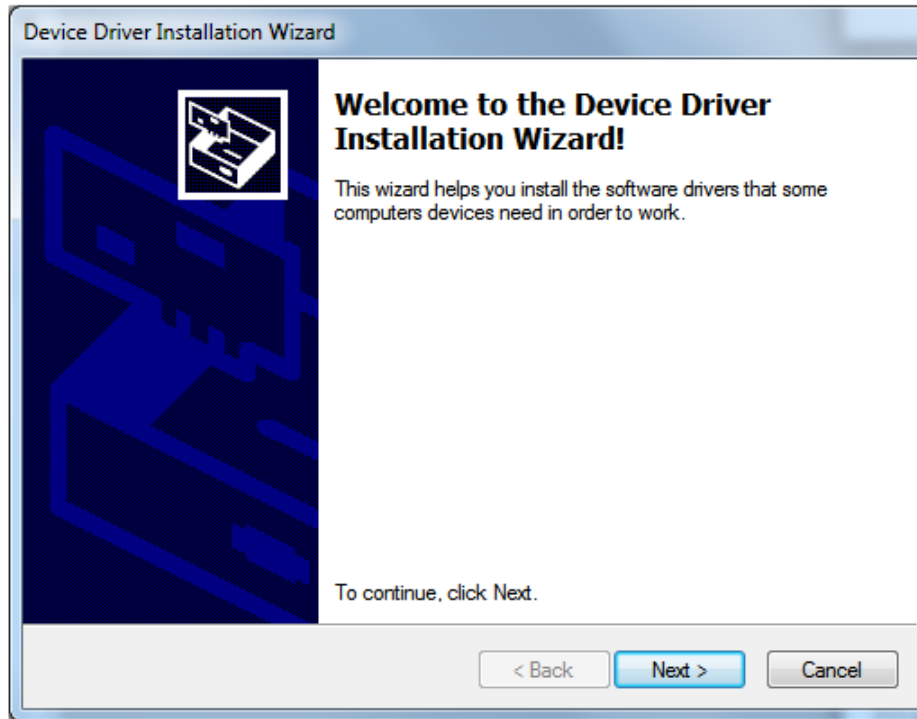

Figure 32. HSDCPro Install (Continue Driver Installation)
- Continue Driver Installation, as in Figure 32.